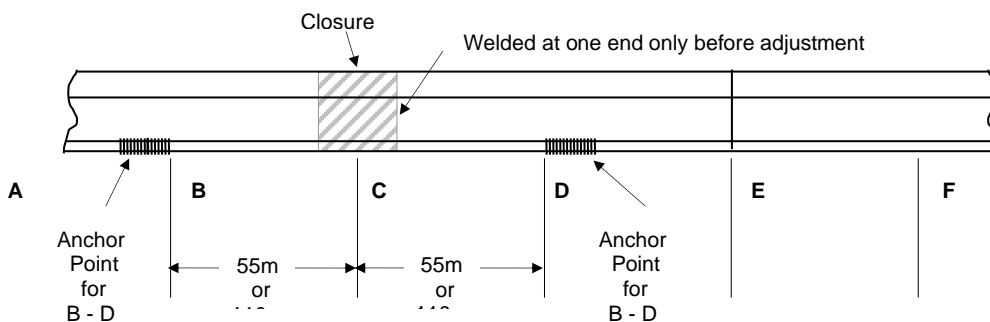

Figure 20 - Adjustment
55. At joint C, crop the end of each rail to remove bolt holes and free weld, at one end only, a closure of 2.2m or longer. In some cases removal of the bolt holes may not be necessary (see CRN CM 222). The rail is now ready for adjustment (Figure 20).